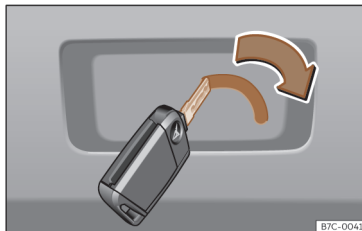

Fig. 82 Detail of the luggage compartment: emergency unlocking
- Insert the key blade into the slot and move the key in the direction of the arrow until the lock unlocks >>> **Fig. 82**.